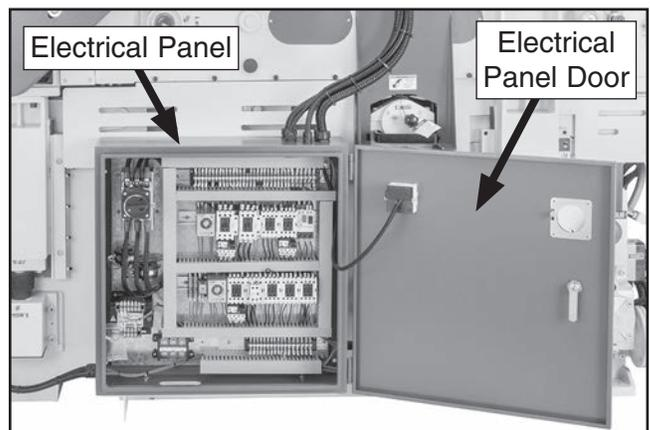

Figure 23. Electrical panel opened.
1. Open electrical panel (see **Figure 23**).